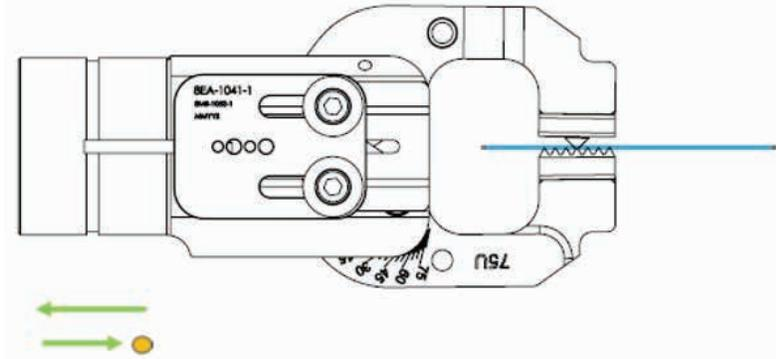

Fig.31
1. Slide the sensor carriage all the way back (see Fig.31)